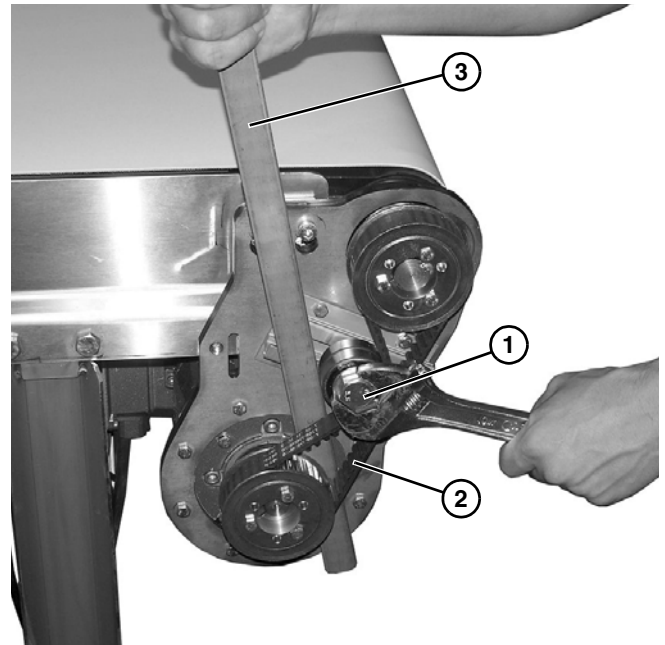

Figure 13
2. Loosen tensioner screw (**Figure 13, item 1**).
3. Tension timing belt (**Figure 13, item 2**) sufficiently to prevent belt skipping. A pry bar (**Figure 13, item 3**), may be used, as shown, to assist in belt tensioning.
4. Tighten tensioner screw (**Figure 13, item 1**) to secure position.